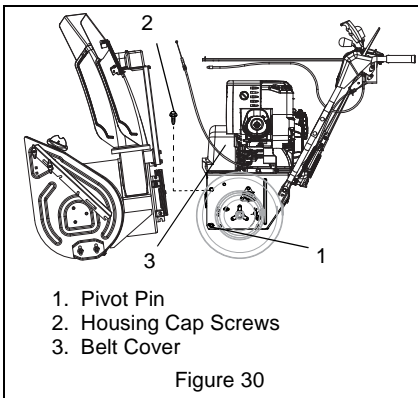

Figure 30
(Figure 30)
2. Loosen hardware securing belt cover to unit (Figure 30).
- Remove hex bolts securing housing to frame (one on each side). Tip housing and frame apart on pivot pin (Figure 30).